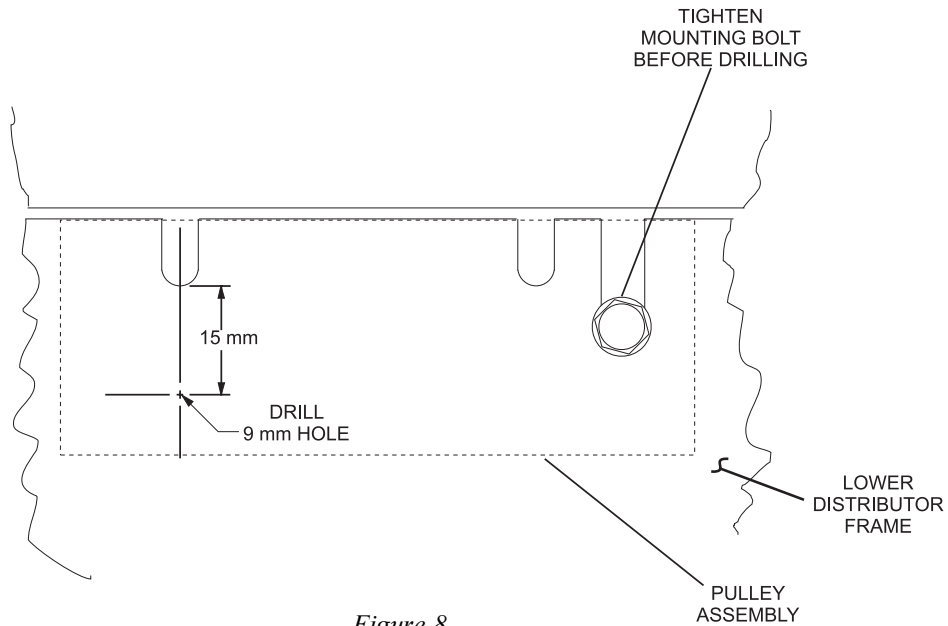

Figure 8
- Secure (inner) side of pulley assembly making sure it is flush with lower distributor frame. Refer to *Figure 8*.
- Drill new 9 mm mounting hole 15 mm below the existing hole, and secure with existing bolt and nut. Refer to *Figures 8,9 and 10*.